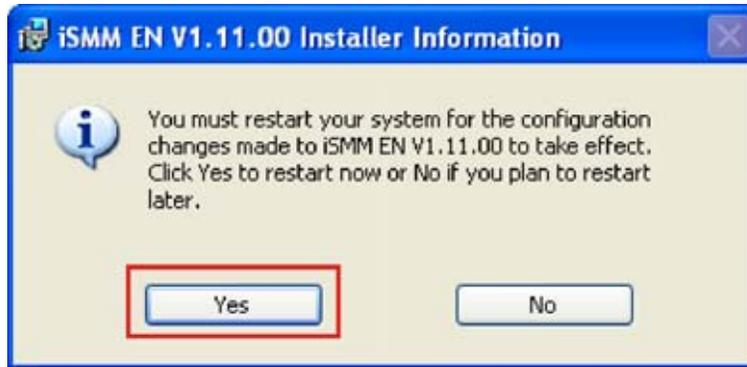

Figure 6-37: iSMN Restart Confirmation
Step 22: The **Restart Confirmation** screen appears.(Figure 6-37)